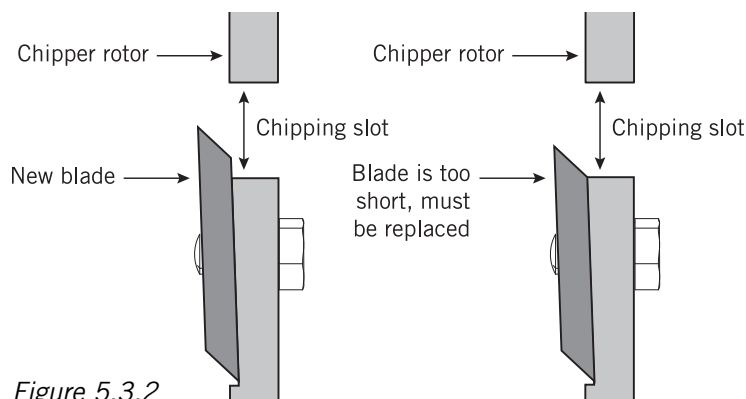

Figure 5.3.2
- The base of the cutting edge is worn or has been re-sharpened so that it no longer extends past the chipping slot (see Figure 5.3.2).